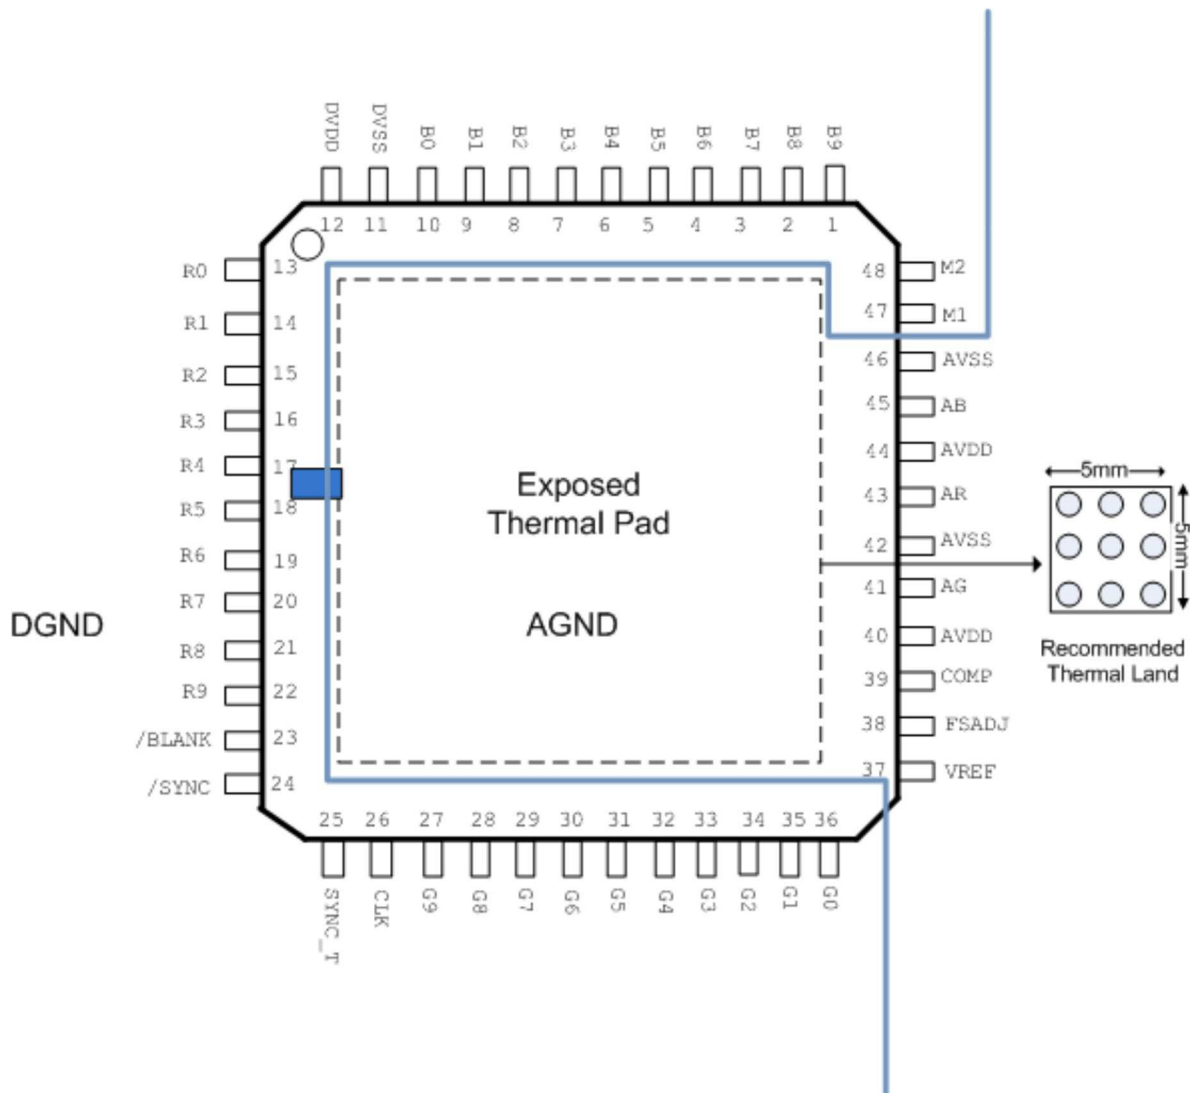

Figure 1. Recommended Split Between Ground Planes
- See Figure 1 for recommended GND split when split planes are used.